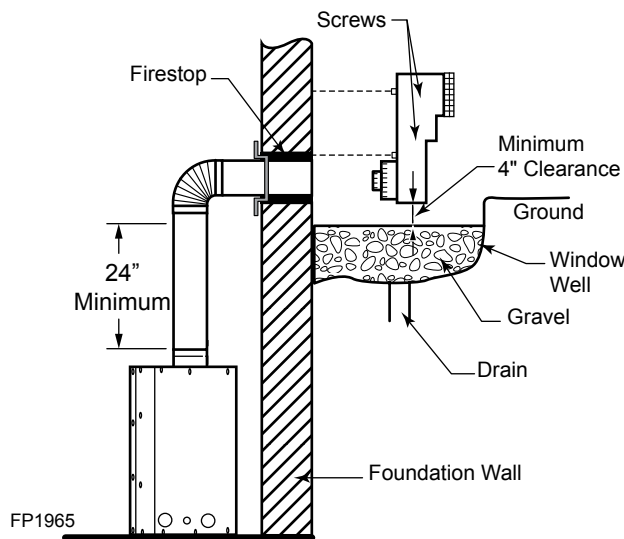

Figure 25 - Below Grade Installation
2. Remove soil to a depth of approximately 16" (406 mm) below base of snorkel. Install drain pipe. Install window well (not supplied). Refill hole with 12" (305 mm) of coarse gravel leaving a clearance of approximately 4" below snorkel. *Figure 25*
7. Level the soil so as to maintain a 4" clearance below snorkel. *Figure 25*